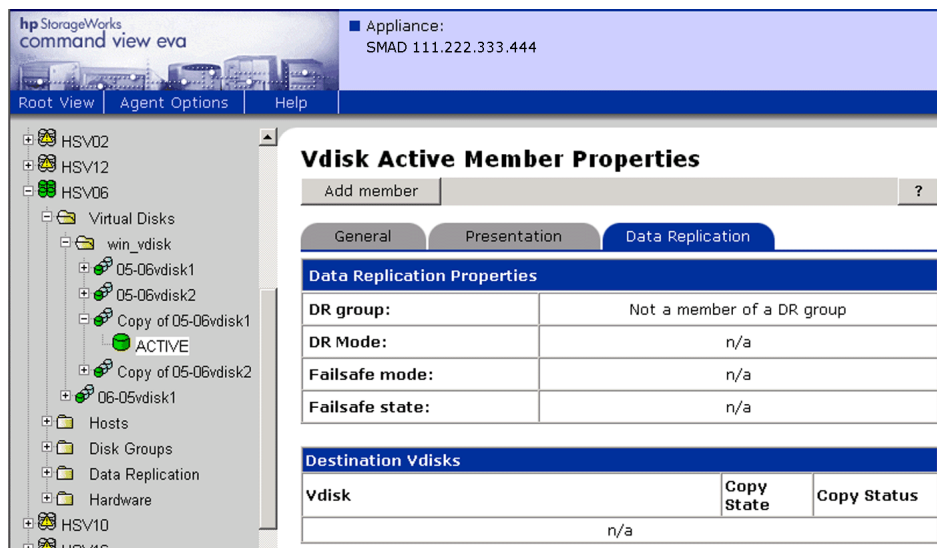

Figure 68: Vdisk Active Member Properties page with Add member tab
- a. Select the active member of one of the Snapcloned Vdisks in the navigation pane. The Vdisk Active Member Properties page is displayed (Figure 66). Click the **Data Replication** tab. The Vdisk Active Member Properties page opens again with an **Add member** tab (Figure 68).